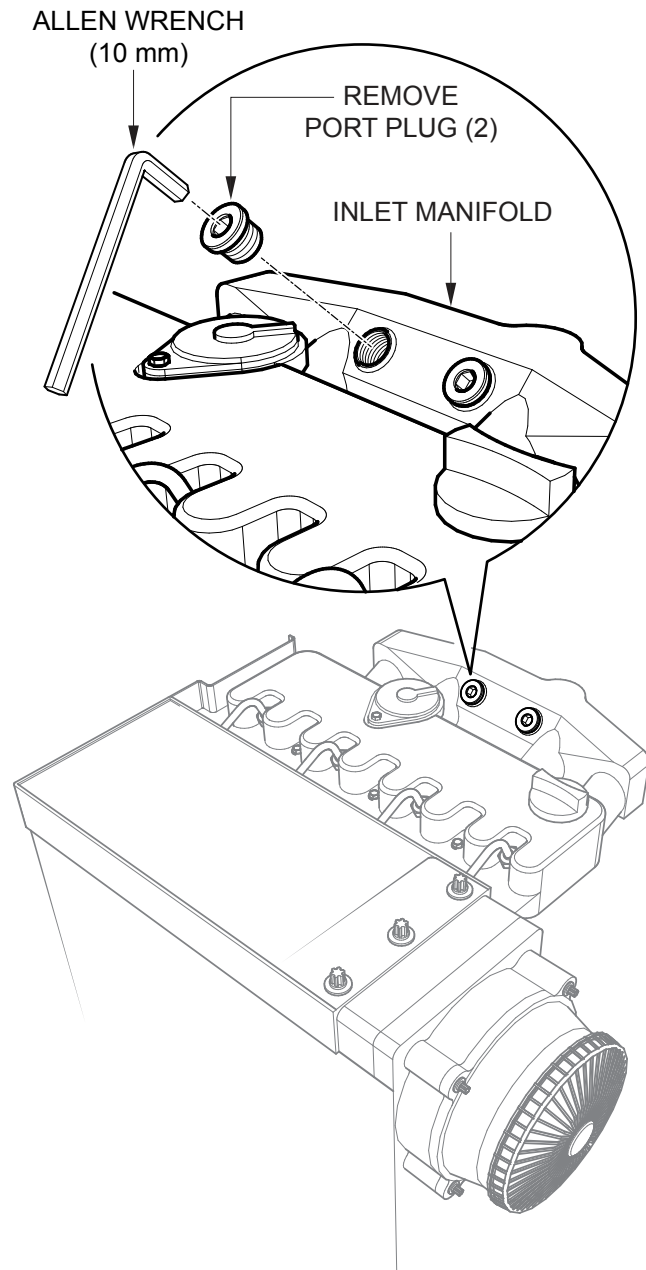

Figure 9. Inlet Manifold Plug Removal
1. Using a 10 mm allen wrench, remove the two inlet manifold port plugs located on the inlet manifold. (Figure 9).